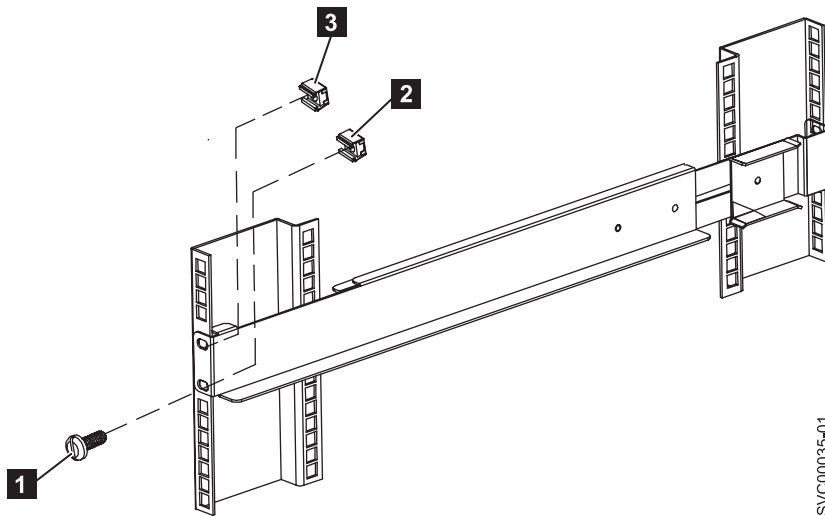

Figure 324. Removing the front rail on the 2145 UPS-1U
3. Remove the clip nut from the top hole of the rail (**3** in Figure 324).